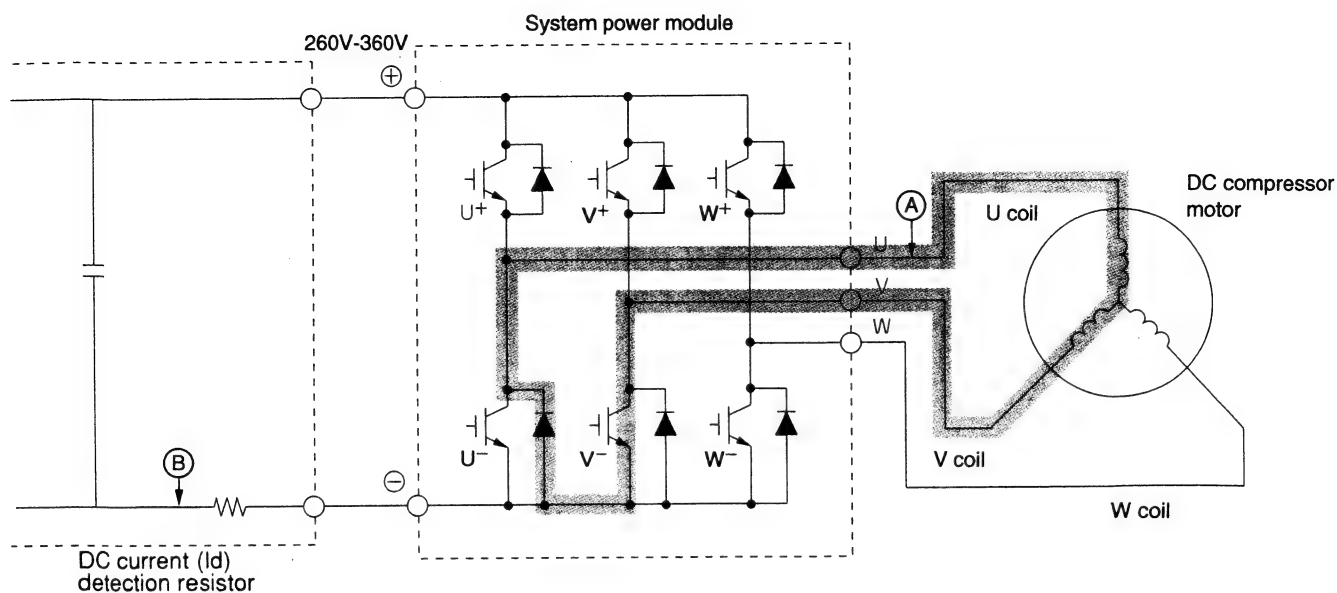

Fig. 3-4 System power module circuit (U+ is ON, V- is ON)
2. Quand le transistor U+ est OFF: (par induction de la bobine de moteur) Bobine U → Bobine V → transistor V- → diode de retour → point (A) (Fig 3-4)